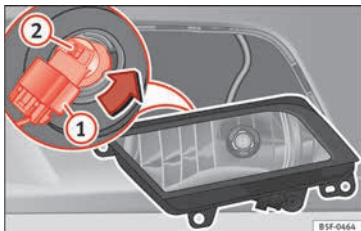

Fig. 97 Front fog light.
- Turn the bulb holder » Fig. 97 ② anti-clockwise and pull.
- Remove connector » Fig. 97 ① from the bulb.